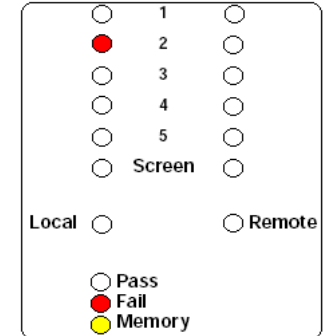

Fig 9. OPEN circuit between Local Pin 2.
b) An open connection was found, usually indicated by a single LED (Fig9).